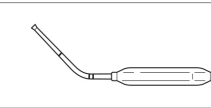

Figure 8: Eustachian Tube Bend
– **Eustachian Tubes:** When treating the Eustachian tubes, a bend of approximately 45° at the 2 cm mark (Figure 8) is recommended.